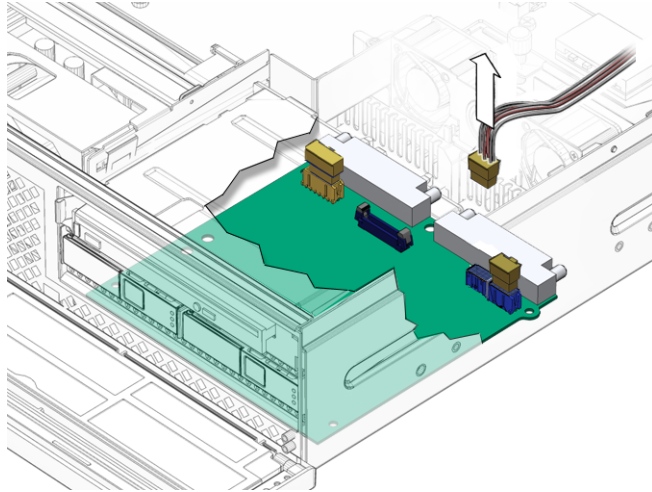

FIGURE 5-12 Disconnecting the Hard Drive Fan Assembly Cable
2. Disconnect the hard drive fan assembly cable from the power board connector J5 (FIGURE 5-12).